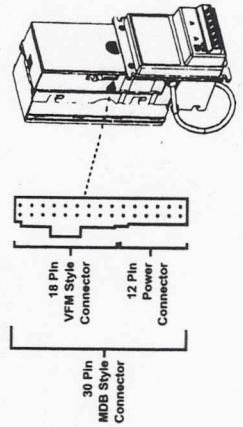

Figure 4
Note: These harnesses fit onto the male connectors located on the left side of the Bill Acceptor (see Fig. 4) and are designed to connect to the vending machine controller's or coin changer's Bill Acceptor interface harness. For further information on either interface harnesses or mounting kits, please contact your supplier or Mars Electronics Service Center.
3. Connect the VN2500 to the appropriate interface harnesses. (See Figure 4.) Forcing harness(es) into Bill Acceptor will cause pins to bend or break.